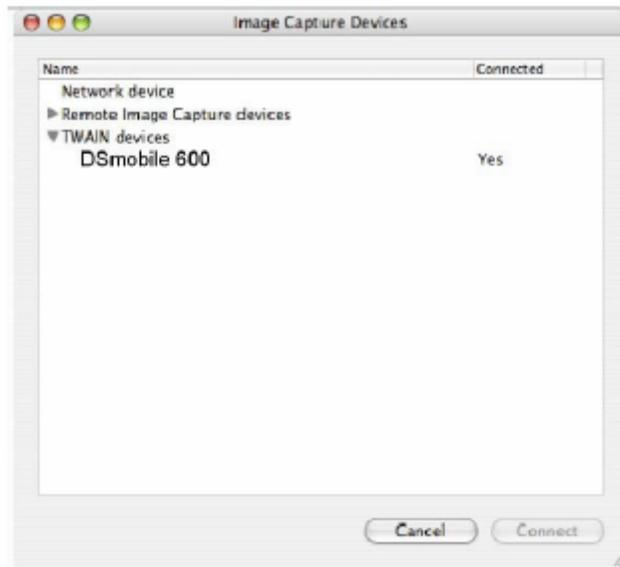

Figure 9. Tiger Image Capture Device Browser Window
6. The “Image Capture Devices” window will appear (See Figure 9).